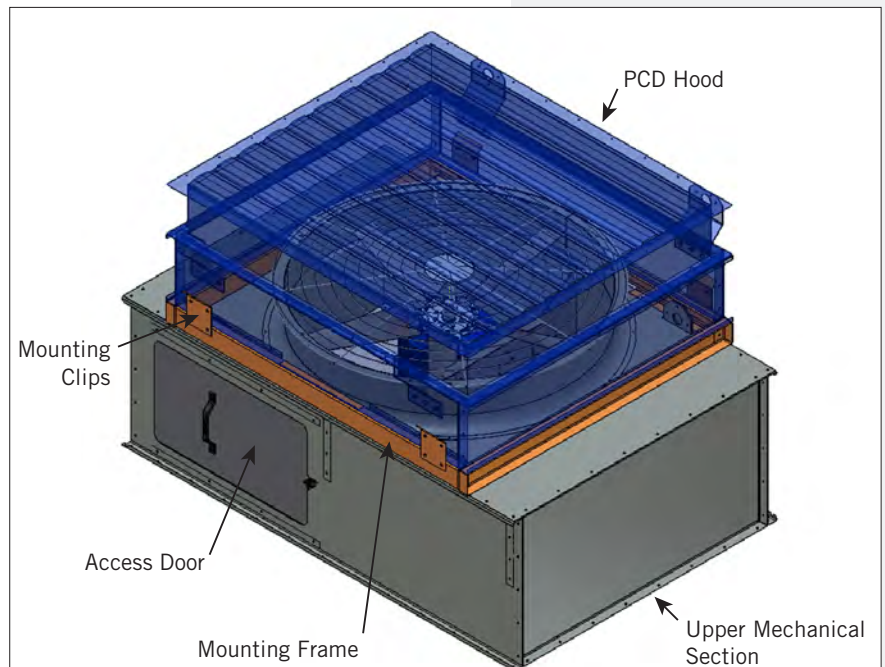

Figure 22. PCD Hood Edge Mounted Assembly (PFI-0406 Shown)
Frame Mounted Assembly: PFI-0406, PFI-0412, PFI-0709, and PFI-0718, (One Fan Only for PFI-1218, PFI-1236, PFI-2418, and PFI-2436) (Figure 22)
1. Verify the mounting frame (and clips for PFI-0406 and PFI-0412) are factory installed as shown in **Figure 22**.